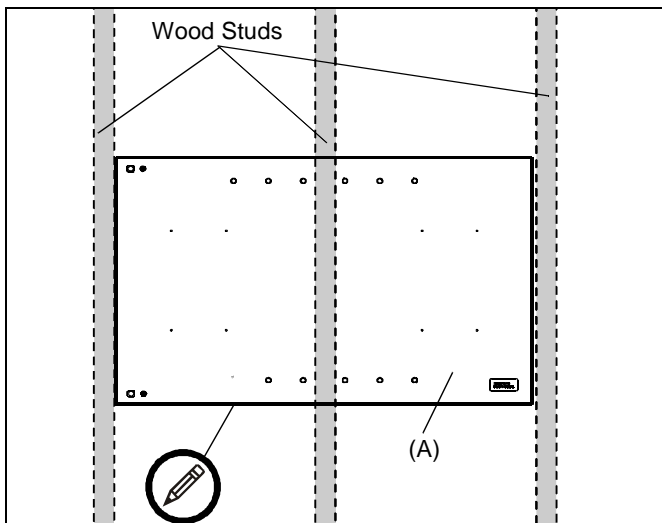

Figure 1
4. Using PAC501 (A) as a template, draw pencil line completely around housing. (See Figure 1)